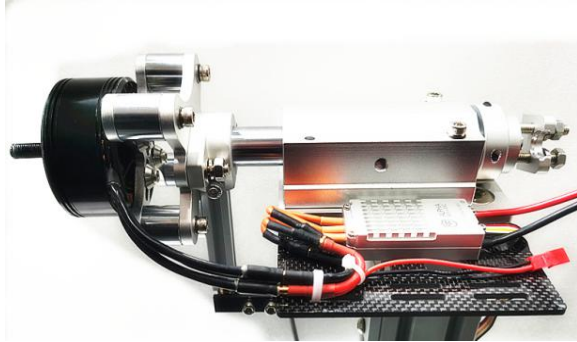
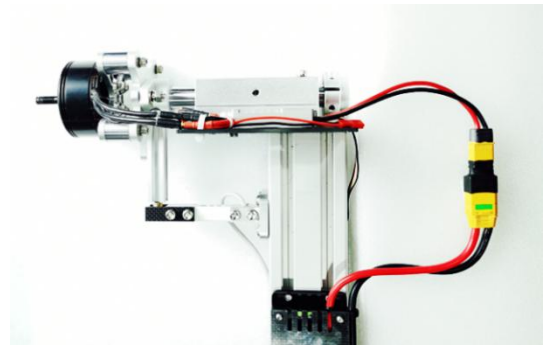

Fig. 2.2.1
Fig. 2.2.2
(1).Mount ESC on the mounting plate. Connect ESC and motor with the conversion cables. Connect ESC with the power module of LY-30KGF, as shown in Fig. 2.2.1 and Fig. 2.2.2: